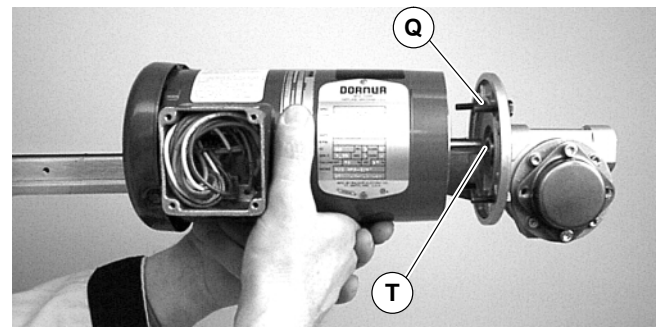

Figure 20
5. With key (T of Figure 20) in keyway, slide motor and gear reducer together. Install screws (Q) and tighten.